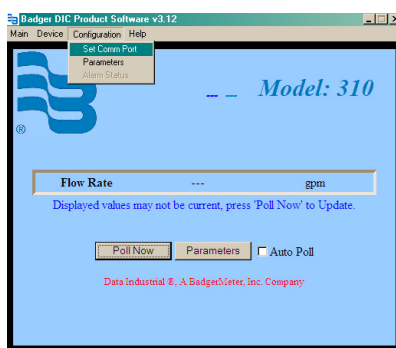

Figure 10: Set Comm Port
5. Open the program and from the **Device** option in the menu bar, select **310** as shown in Figure 10.